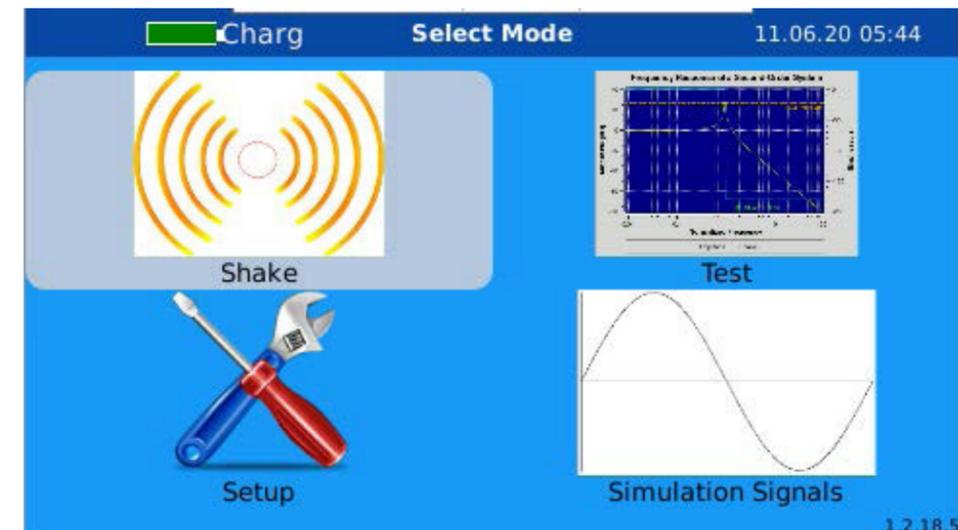

Figure 9. Choose "Shake" from the main menu
1. From the main menu, select **Shake** to open the shake mode screen (*Figure 9*).